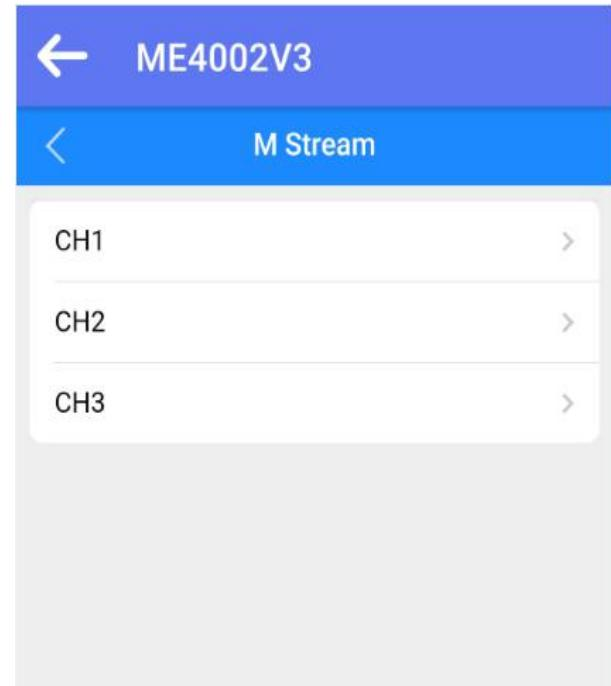

Fig.3.6 Main stream
Step 2: Select **Video → Main stream**. (Fig.3.6)